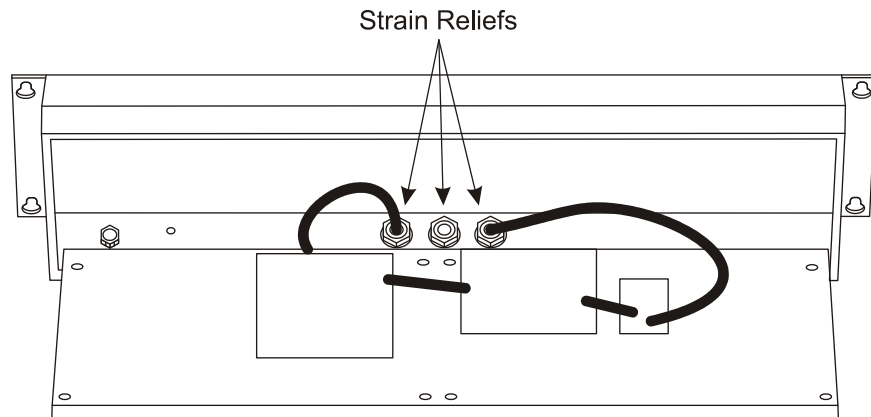

Figure 3.2 Strain reliefs
5. Run communication cables up into the enclosure via strain reliefs as necessary. See Figure 3.2.